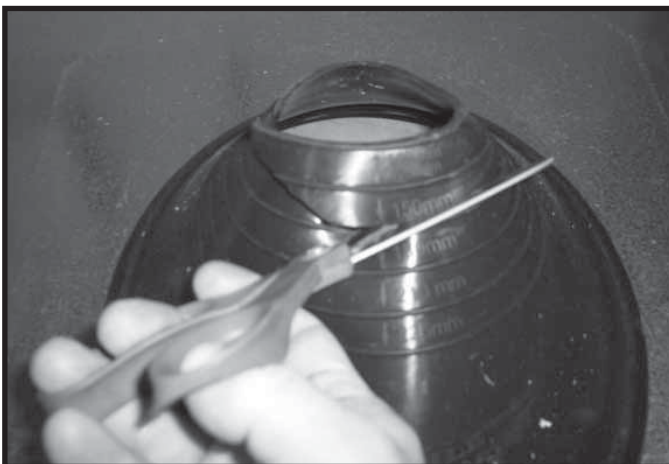

Figure 8.19 Trim Rubber Boot
- Trim the rubber boot (using scissors or a utility knife), cutting along the marked measurement lines. See Figure 8.19. Use the 150 mm line for SLP, 210 mm for DVP.